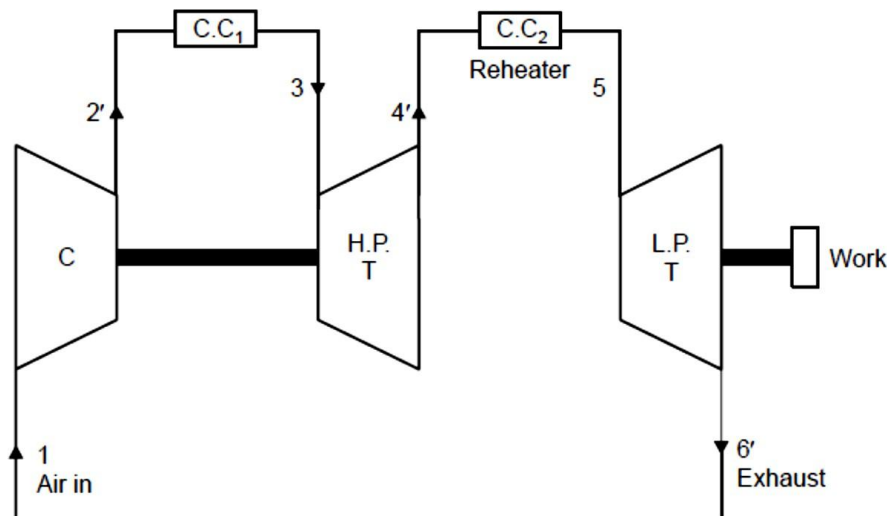
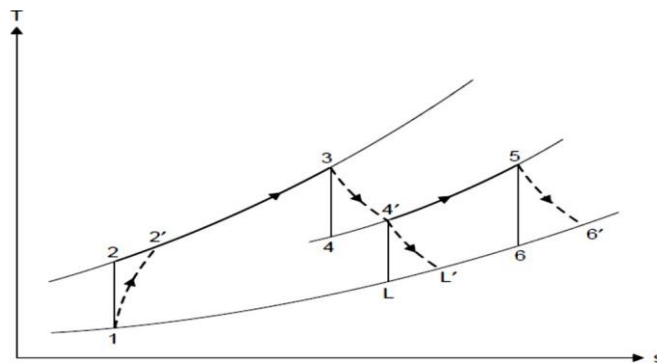

Fig.1.14. Gas turbine with reheat
Fig.1.15. T-s diagram for the unit
2. Reheating: The output of a gas turbine can be amply improved by expanding the gases in two stages with a re heater between the two as shown in Fig. 1.14. The H.P. turbine drives the compressor and the L.P. turbine provides the useful power output. The corresponding T-s diagram is shown in Fig. 1.15. The line 4'-L' represents the expansion in the L.P. turbine if reheating is not employed.